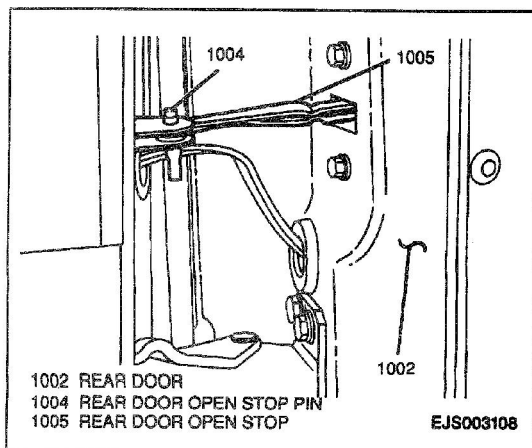

Figure 3—Rear Door Open Stop Pin
13. Rear door open stop pin from rear door open stop (Figure 3).
2. Rear door open stop pin to rear door open stop (Figure 3).